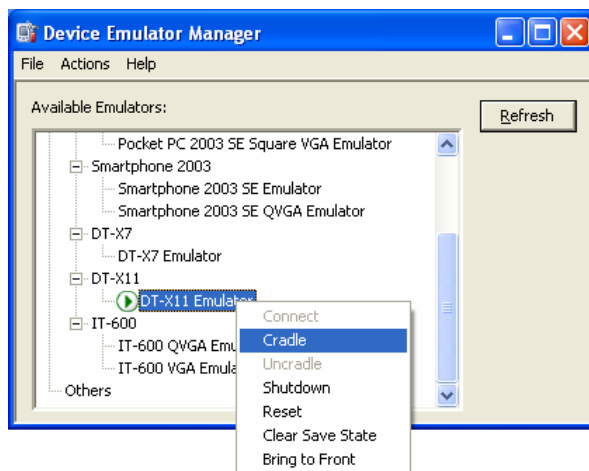

Figure 7.14
3. Right-click **DT-X11 Emulator** in **Available Emulators** list and then choose **Cradle** in the popup menu. See Figure 7.14.